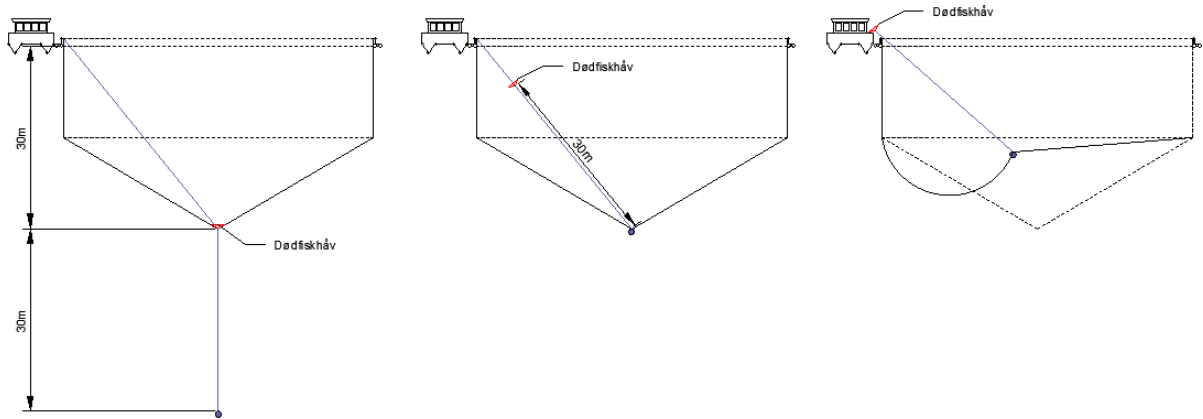

Figure 4: Dead fish collector rope inside/outside the net with a depth of 30 m from the centre bottom of the net to the center weight
- The equipment used, as well as local conditions such as weather, wind and depth, will influence the forces that can arise during an operation. Therefore, in situations where there is a strong current and/or large waves, pay special attention to the forces that can be applied to the various components. For example, it would not be prudent to uncontrollably winch a dead fish collector rope using a powerful crane or spar from a work boat that is pitching and rolling in high waves. The movement of the work boat and floating collar/net could become out of synch, which may cause large jerks in loads in the system, which in turn exceed the load capacity. This is especially true if you are using a shorter mort collector rope (see Figures 4 and 5 below).
Figures 4 and 5 show a scenario that can cause large jerks in loads if the work boat and floating collar/net become out of synch.